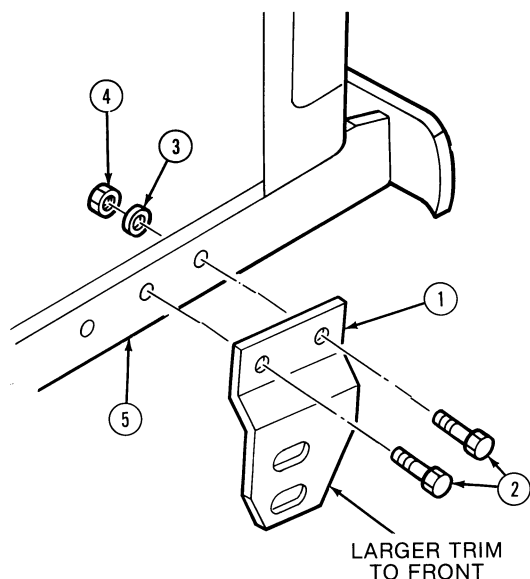
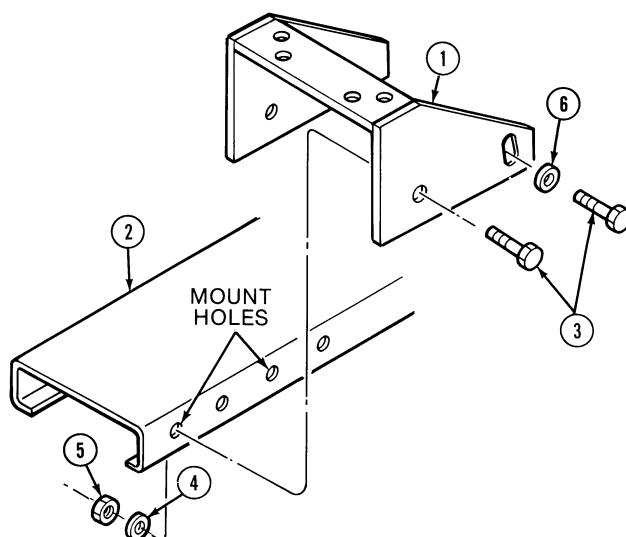

Figure 13
Figure 14
3. Using the tractor frame hole combination nearest to the tractor bumper attach the front mounting brackets, (1), using four 1/2" NF x 2" hex hd. bolts, (2), lockwashers, (3), and nuts, (4), as shown in Figure 13. Do not tighten the bolts at this time.
2. Attach the rear frame, (2), to the back hole in the rear mounting bracket, (1), using two 5/8" NF x 2" hex hd. bolts, (3), lockwashers, (4), and nuts, (5), as shown in Figure 14. Do not tighten the bolts at this time.
4. Attach the rear frame to the front hole in the rear mounting bracket using two 5/8" NF x 2" hex hd. bolts, (3), spacers, (6), lockwashers, (4), and nuts, (5), as shown in Figure 14. Use a spacer over each slotted hole, as shown.
IMPORTANT: Torque the 5/8" dia. bolts (3) Figure 14 and 15 to 150-180 lbs.-ft. Torque the 1/2" dia. bolts (2) Figure 13 to 80-96 lbs.-ft.